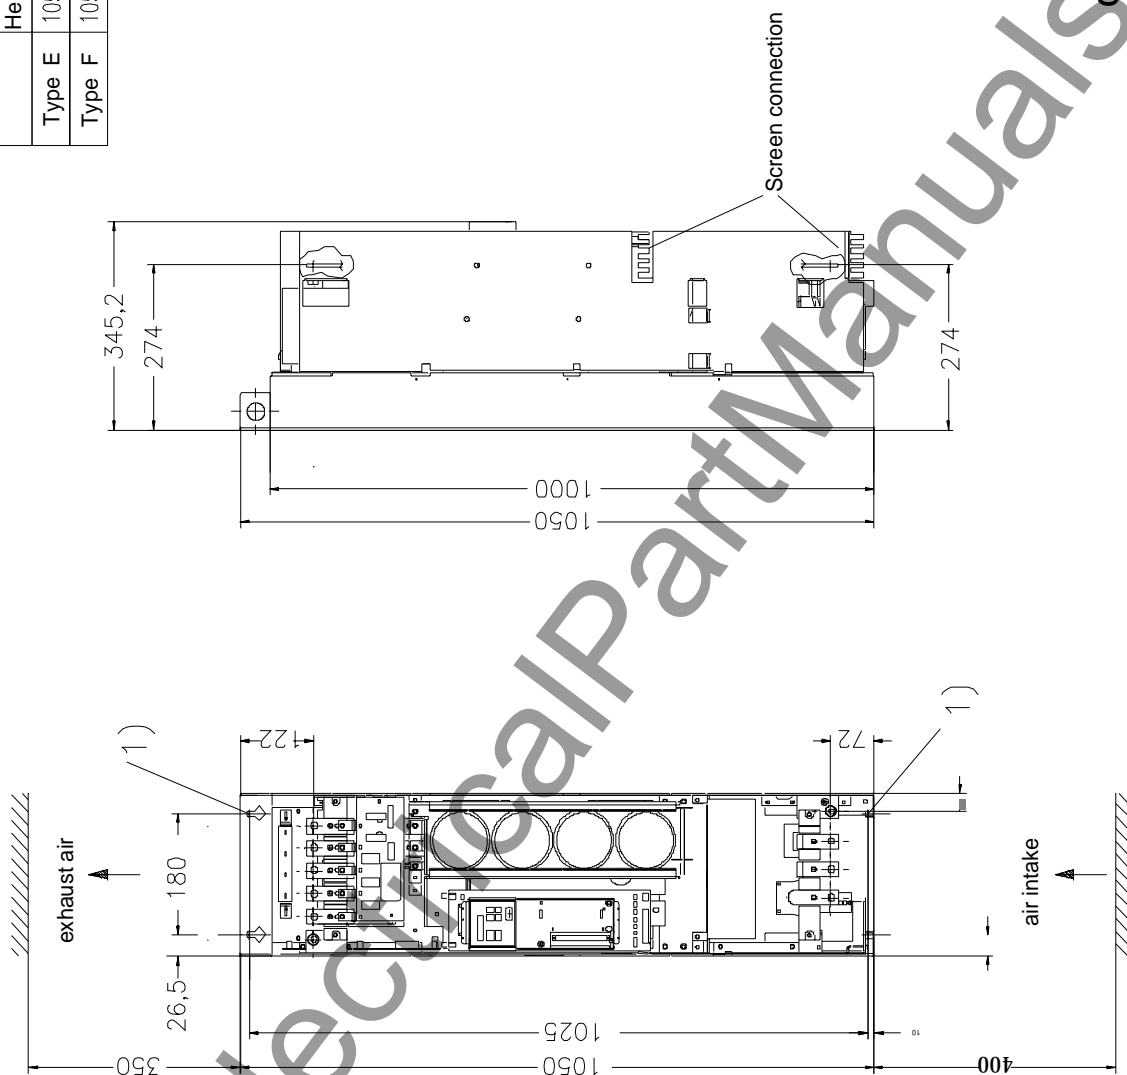
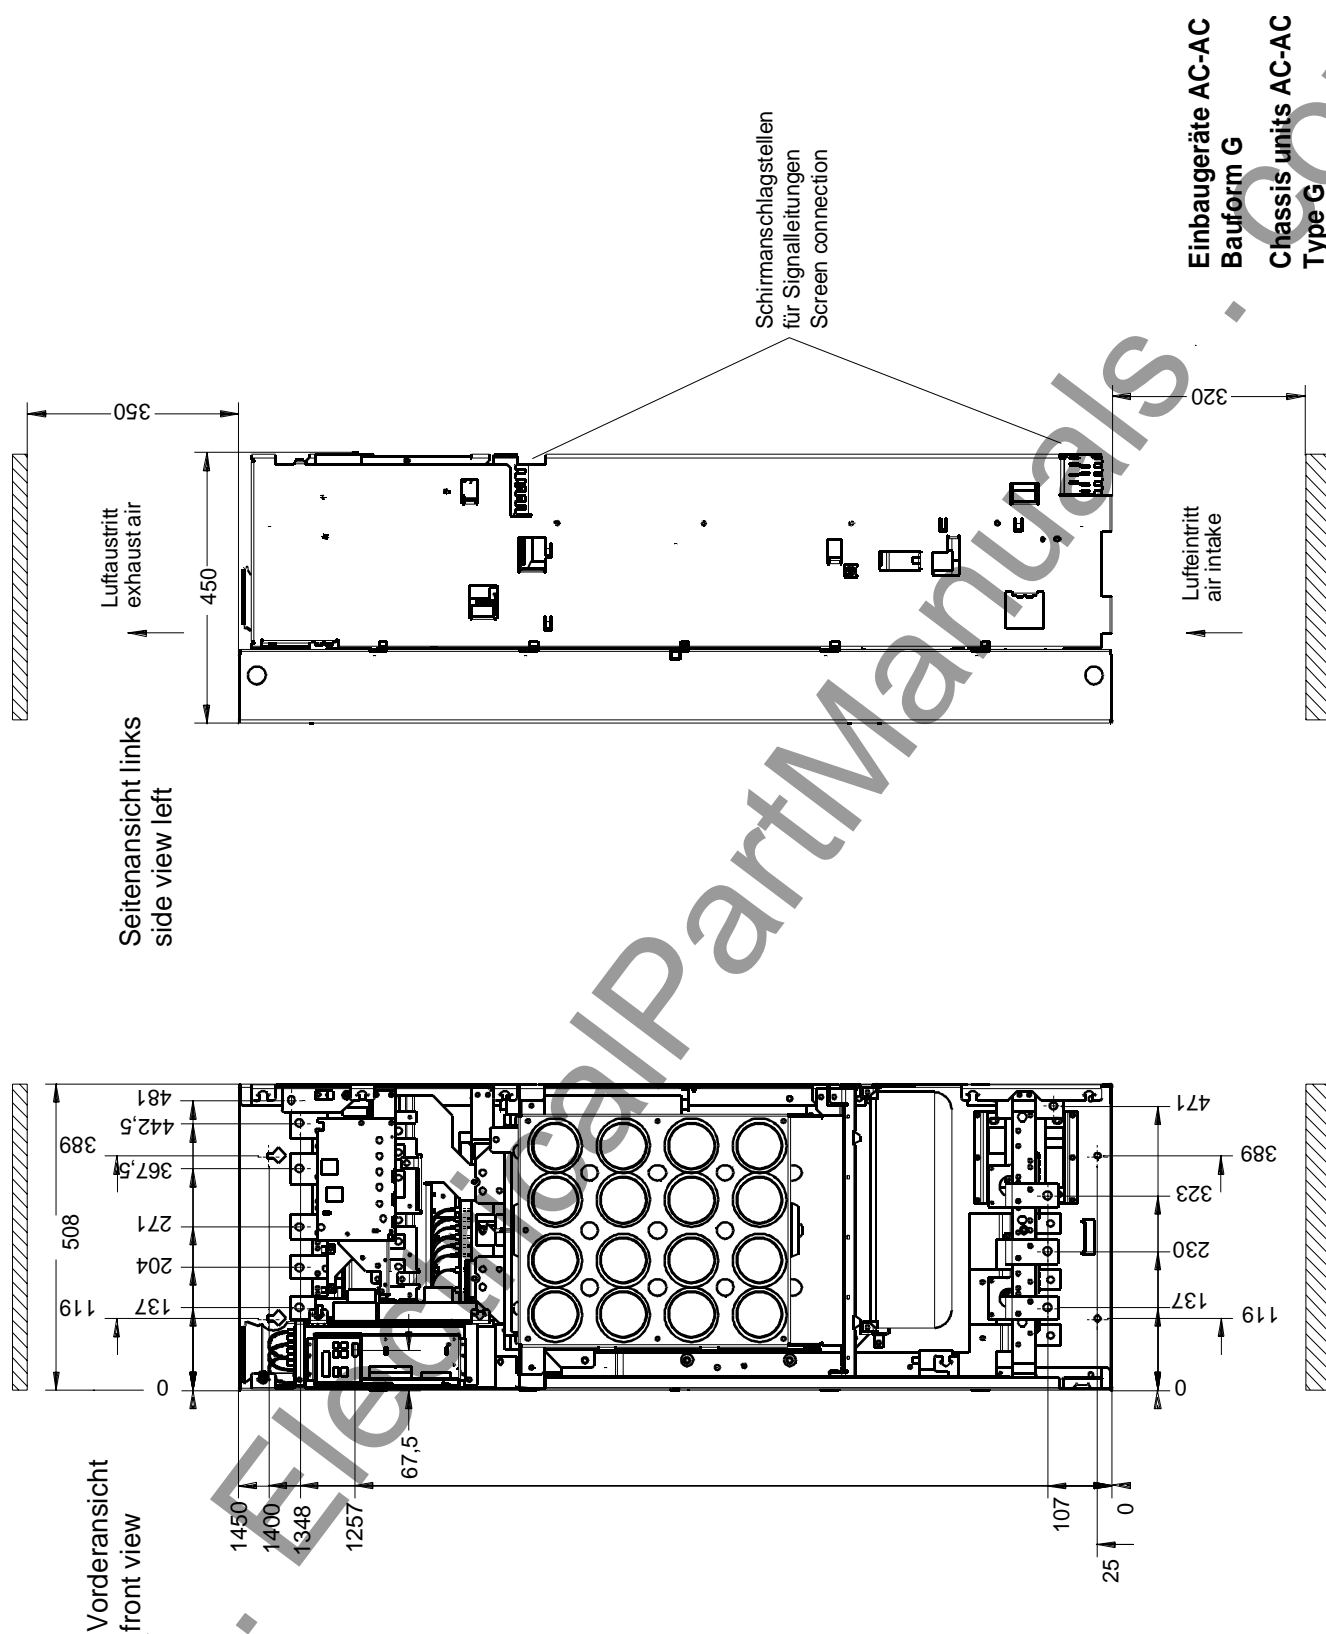

Fig. 2.2 *Types E and F*
Fig. 2.3 Type G
- ♦ Dimension drawings: Fig. 2.2 for types of construction E, F, Fig. 2.3 for types of construction G and Fig. 2.4 for type of construction H.